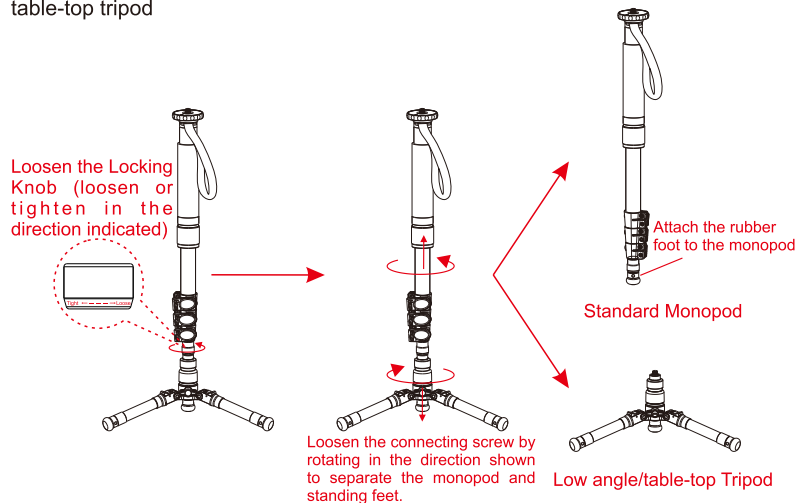

Figure 8
5. The Multi-function Photo/Video Monopod can be separated into a monopod and table-top tripod. (figure 8)
2. When separating the monopod section from the table-top tripod, place the Multi-function monopod on the ground with the support feet open as shown in figure 8 to avoid unexpected damage or injury.